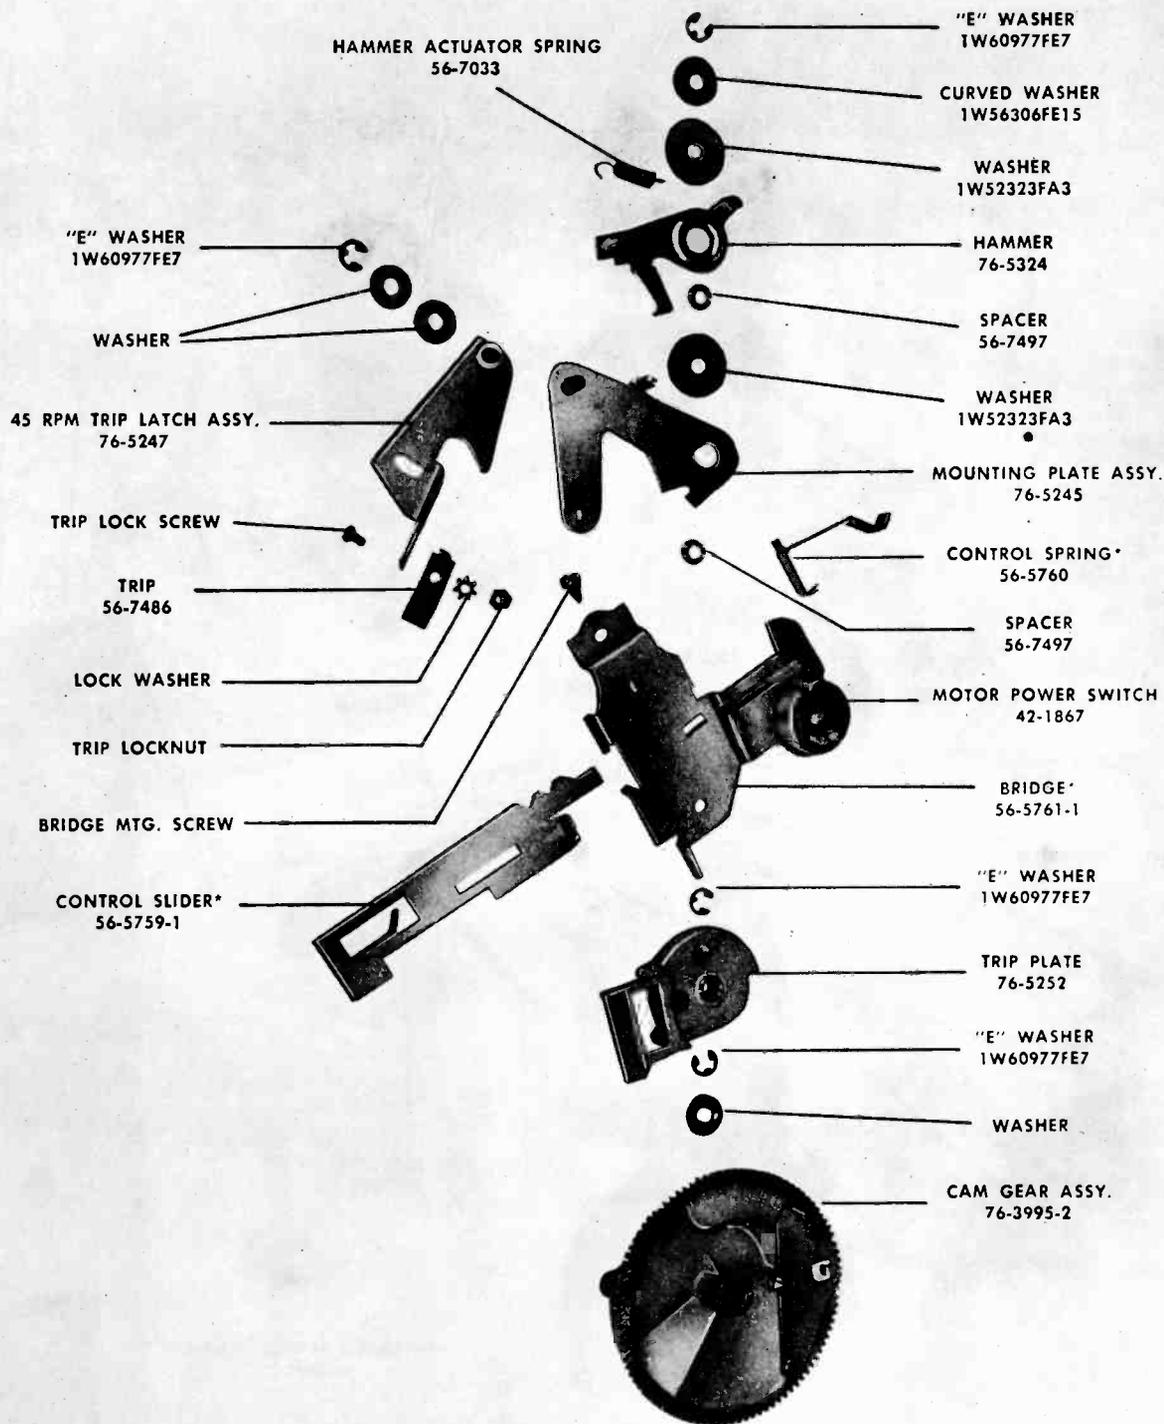

FIGURE 18. CAM-GEAR AND BRIDGE ASSEMBLIES (BRIDGE ASSEMBLY PARTS ARE IDENTIFIED BY *)
- Lift bridge off, and disengage control link from slider control bar. See figure 18.
- Slide cam gear from spindle. Figure 18 shows cam-gear assembly.